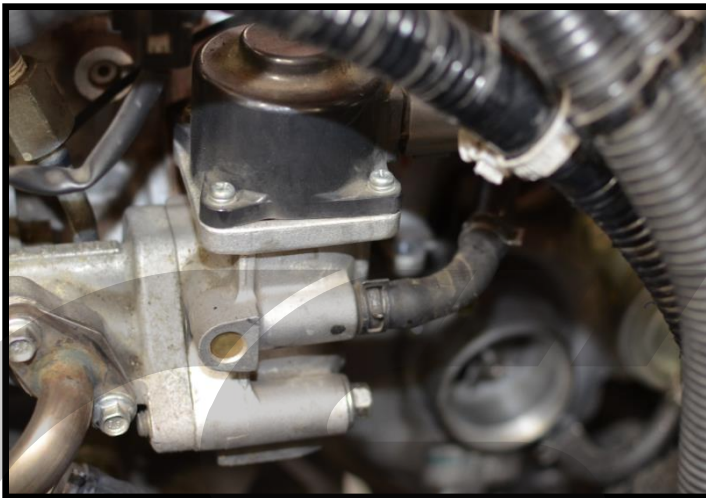

Figure 5b
- b) Locate the EGR valve (shown in Figure 5b).